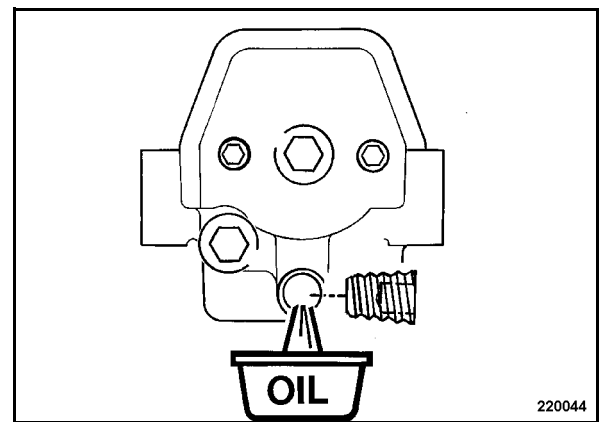

Fig. 55
- Unscrew the drain plug (Fig. 55) and catch the old oil.